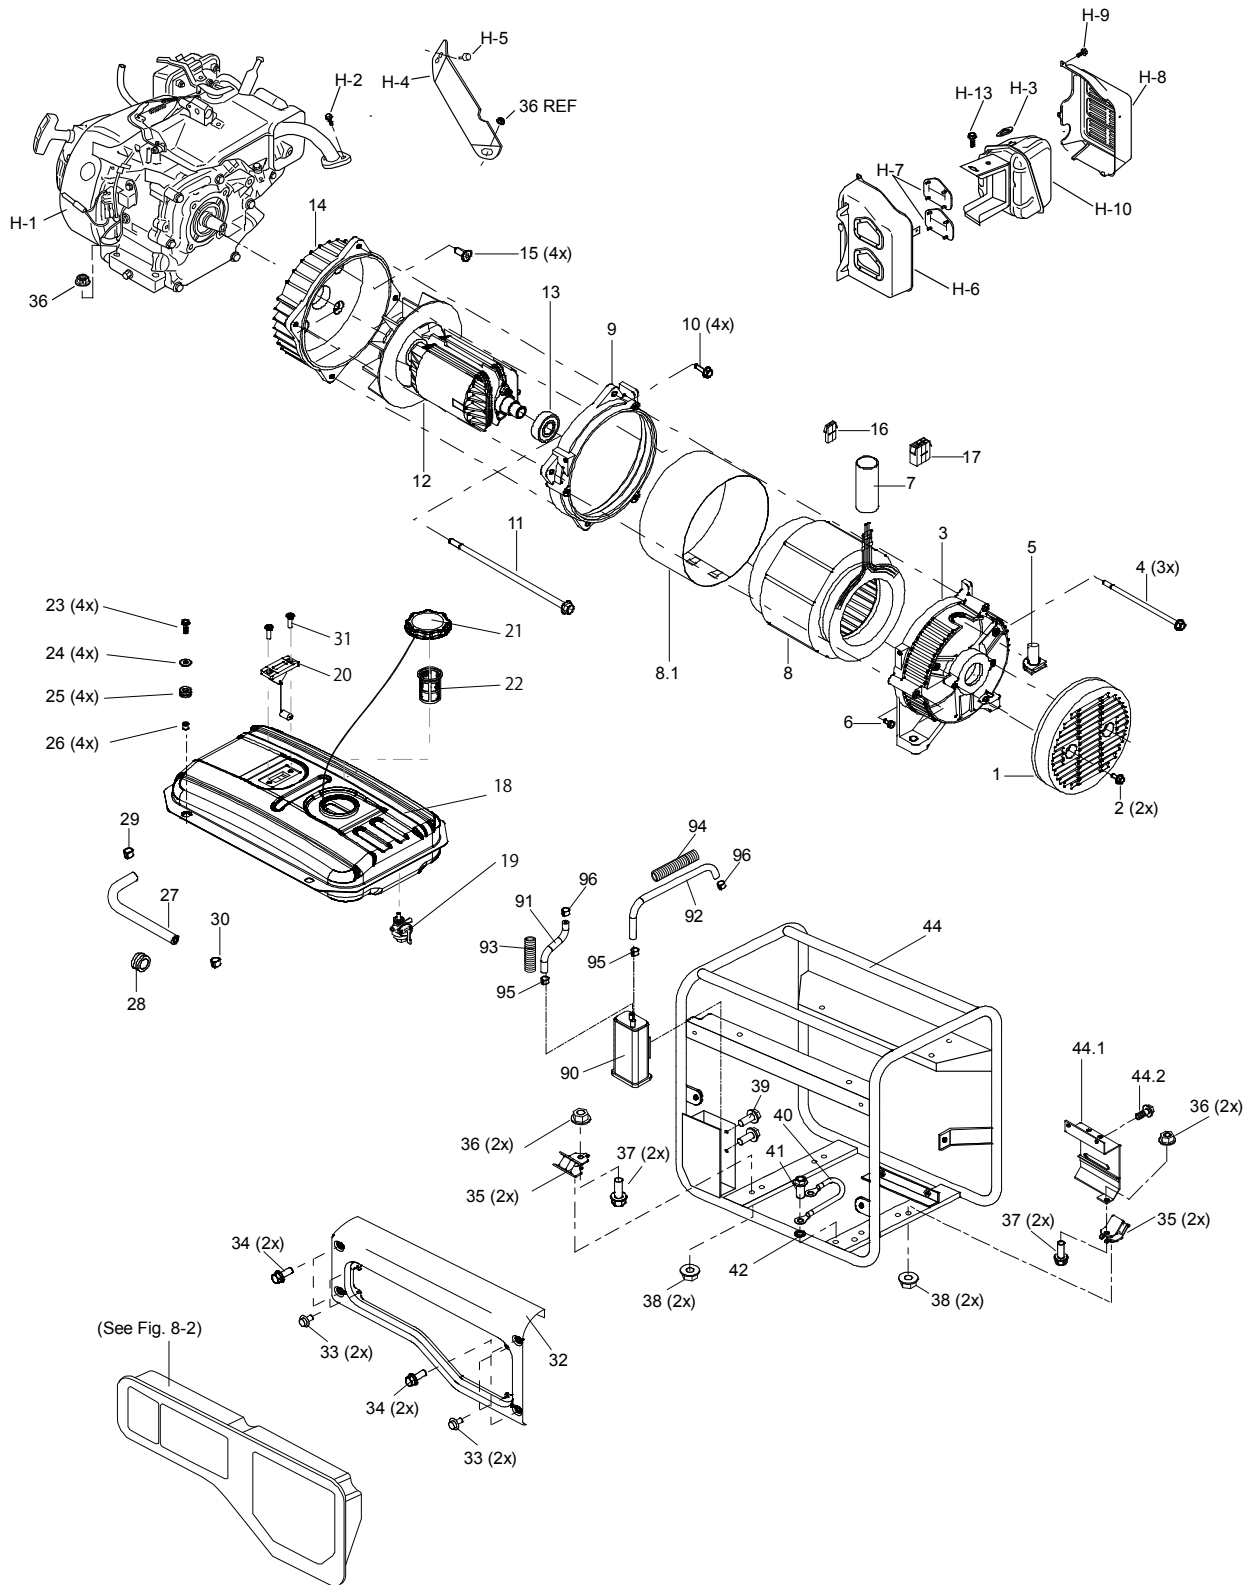

Figure 6-7: Removal of Engine and Generator as a Unit
- (1) To ease the replacement of components, drain and remove the fuel tank (18), remove the front panel (46) and control box (45) from the frame (44).
- (2) Refer to Figure 6-7. Remove four screws (33) and two screws (74) to separate control box (45) from front panel (46).
- (3) Disconnect generator tube (7) from rear cover (1).
- (4) Tag and disconnect generator wires. Pull generator wires free from the control box (45).